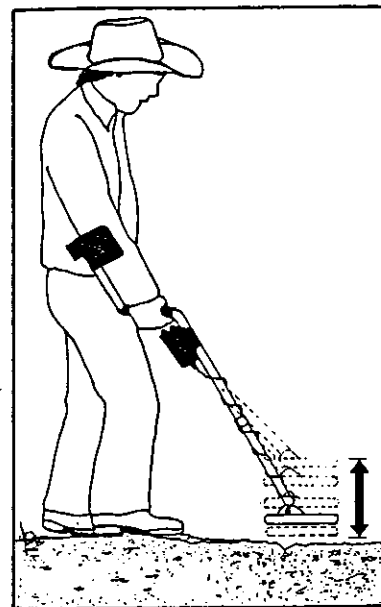

Figure 4. Automatic Ground Balancing (AGB) procedure
5. To rapidly Ground Balance, hold the RESET switch in the "Up" position while continually raising and lowering the coil between 3 and 10 cm above the ground (Fig.4), or higher on exceptionally hot ground. Initially, you will hear a signal each time the coil moves in a particular direction. After a few moments, the sound will diminish with each movement until it almost vanishes. **You have just Automatically Ground Balanced** the detector to reject ground noises at that spot. Release the RESET switch. If step 5 is not carried out, the FT16000 will still automatically ground balance with use, after a few seconds.